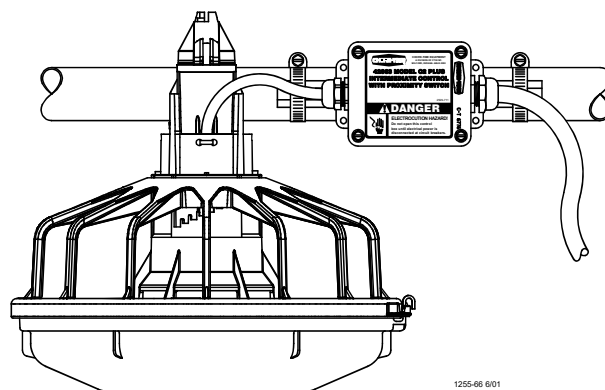

Figure 49. Installing the Mid Line Control
- Assemble the Mid-Line Control to the Feeder Tube as shown in **Figure 49**.
- Attach the Switch Box Assembly to the Feeder Tube with Hose Clamps as shown in **Figure 49**.